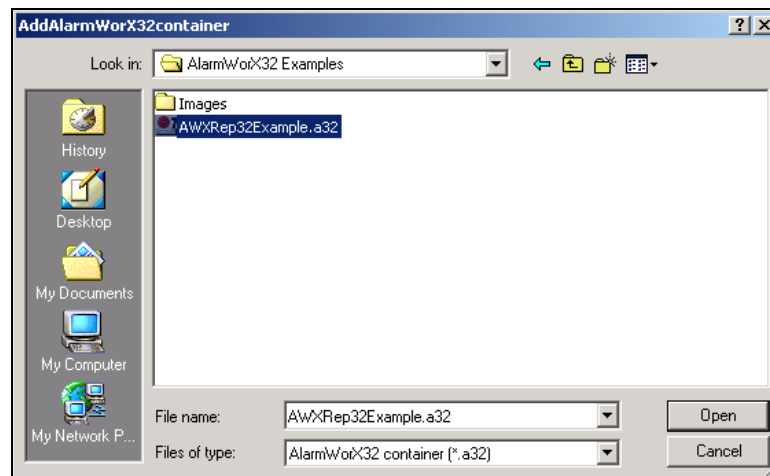

Figure 4.9
2. In the Add file dialog box, choose a directory and a file to import, as shown in **Figure 4.9**. Click **Open**.